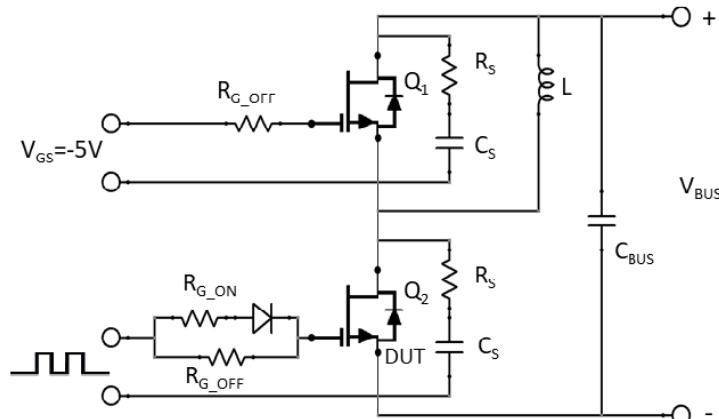

Figure 29. Clamped Inductive Load Switching Test Circuit. An RC Snubber ($R_S = 5$ Ω and $C_S = 330$ pF) is required to Improve the Turn-off Waveforms.
4. The switching performance are evaluated with a RC snubber circuit as shown in Figure 29.